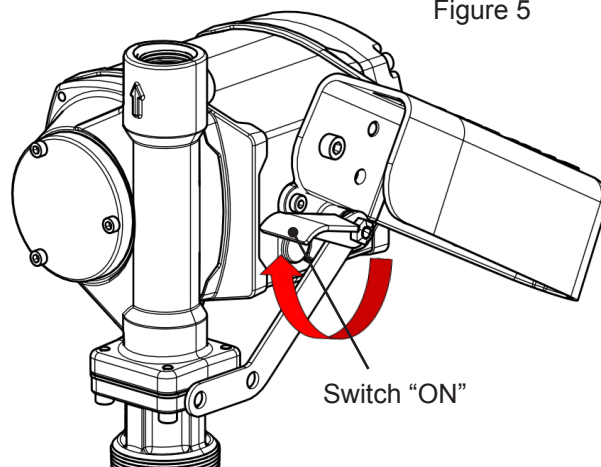

Figure 5
3. Move the switch lever to the "ON" (raised) position to start the motor (figure 5). The pump should start and settle into a slow idle.